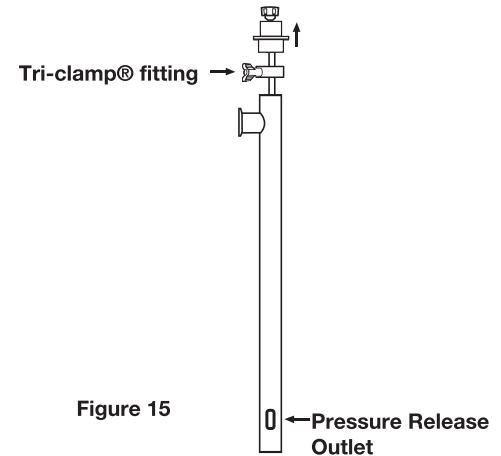

Figure 15
5. Pull straight up separating the inner tube assembly from the outer tube assembly (see Figure 15).